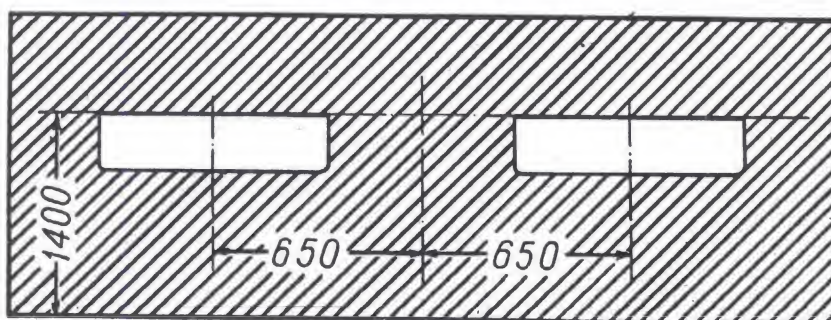

FIG. 89. HEADLIGHT ADJUSTMENT SCREEN
- (a) three vertical lines: the middle line opposite the vehicle axis and two side lines opposite the headlight centres (Fig. 89);